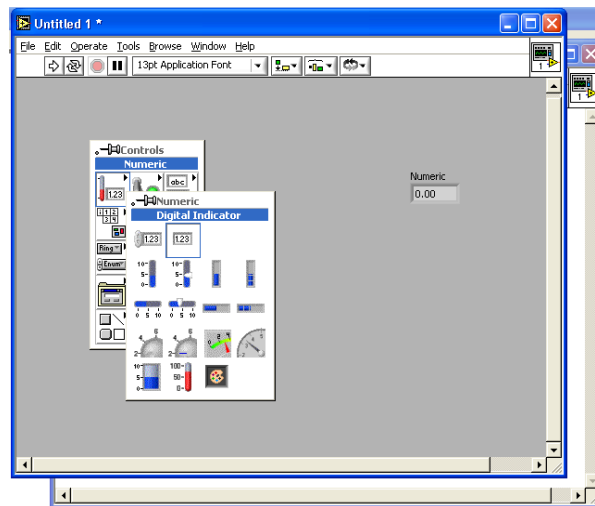

Figure 2.3.26. LabVIEW Front Panel.
2. **Right** click on the gray screen, find **Numeric** on the pop-up **Controls** menu, and find and drag a **Digital Indicator** to the gray screen, as in Figure 2.3.26.